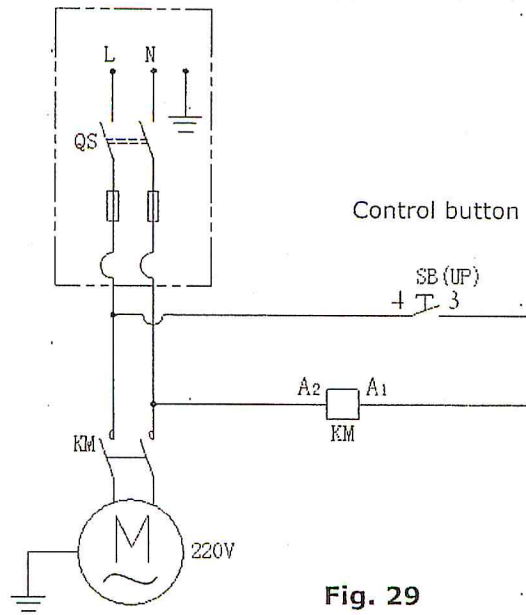

Fig. 29
1.1. Circuit diagram (See Fig. 29).